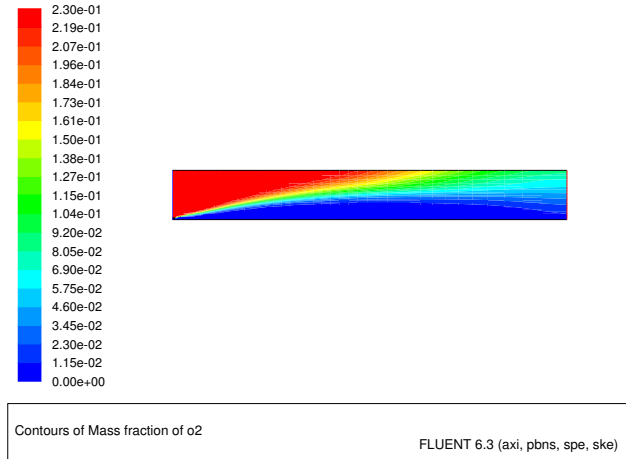

Figure 13.9: Contours of O_2 Mass Fraction
- In a similar manner, display the contours of mass fraction for the remaining species O_2 , CO_2 , and H_2O (Figures 13.9, 13.10, and 13.11). Close the Contours panel when all of the species have been displayed.